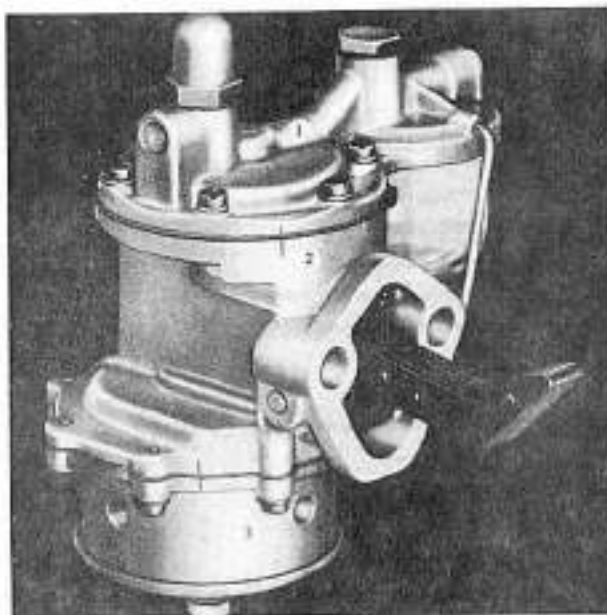

Fig. 389
Mark the edges of fuel cover (1, Fig. 389), vacuum cover (3), and body (2) diaphragm flanges with a file so that the parts may be reassembled in their original positions. Note that the fuel diaphragm flange is symmetrical and the vacuum diaphragm flange has bulges where the screw holes occur.